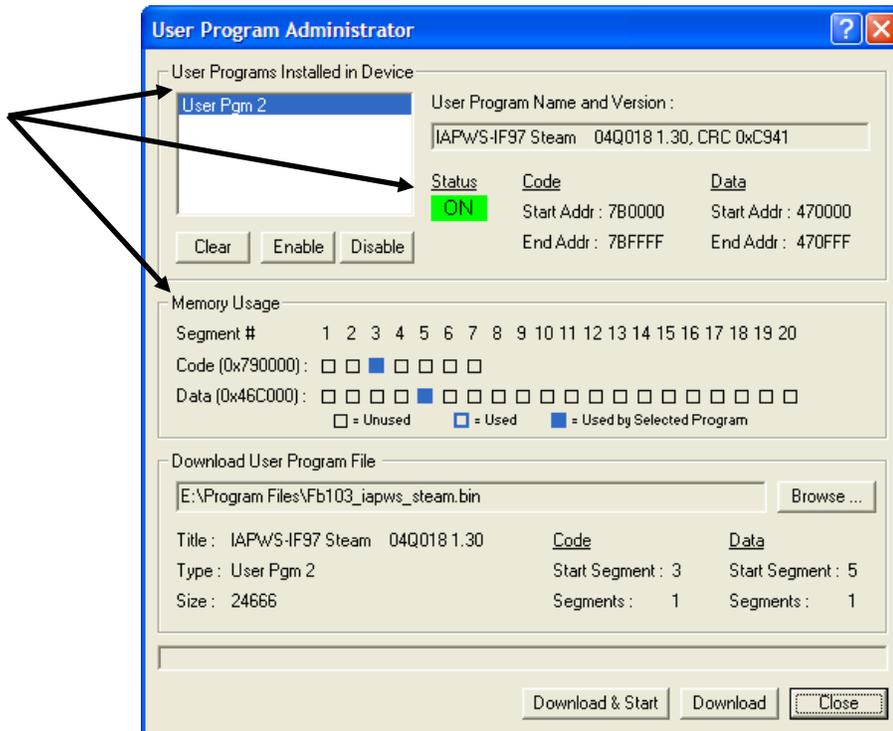

Figure 7. User Program Administrator Screen
10. Click **OK**. The User Program Administrator screen displays (see Figure 7). Note that:
- The Status field indicates the program is loaded and running (ON).